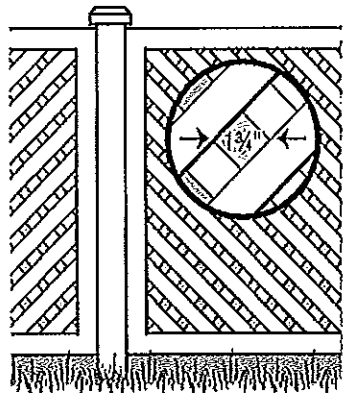

Figure 7
9. Where the barrier is composed of diagonal members, such as a lattice fence, the maximum opening formed by the diagonal members should be no more than 1¼ inches (figure 7).